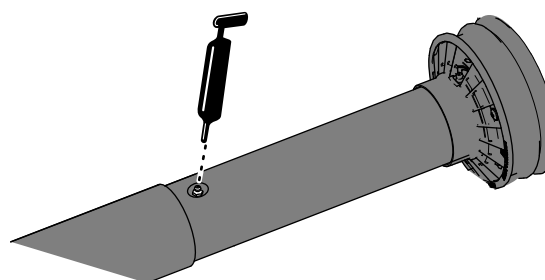

Figure 10
3. Partially extend the PTO driveshaft to access the grease fitting near the middle of the inboard driveshaft guard (Figure 10).
4. Apply grease to the grease fitting for the telescoping driveshaft joint as shown in Figure 10.